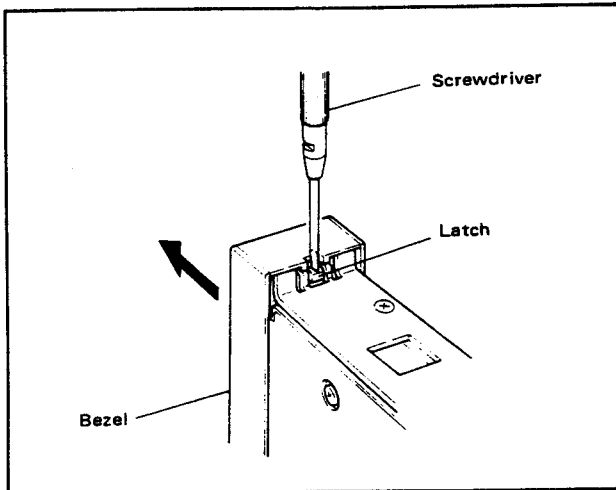

Figure 6-2. Removing the Bezel.
- (1) Remove the front face bezel by lightly depressing the latch with a screwdriver. (See Figure 6-2.)
- (1) Remove the bezel from the main body by referring to Figure 6-2.